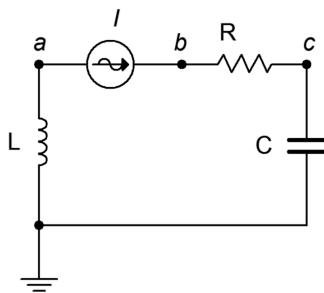

Figure 2.30
48. For the circuit of Figure 2.30, determine v_{ac} , v_b and v_a . The source is a 2 mA peak-peak sine at 300 kHz, $R = 560 \text{ }\Omega$, $C = 6.8 \text{ nF}$ and $L = 400 \text{ }\mu\text{H}$.